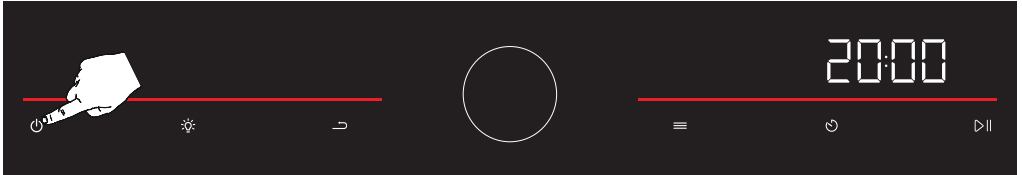
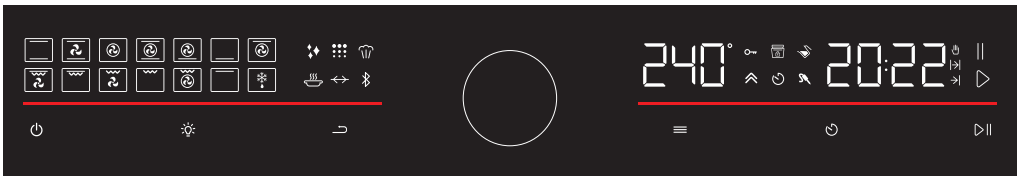
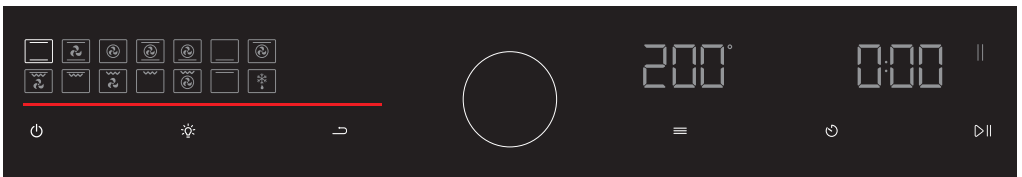

Figure 11
Figure 12
Figure 13
1. Press on/off button () to turn on the oven. (see figure 11) All symbols flash when the oven is switched on. (see fig. 12) The function selection becomes available. (see figure 13)